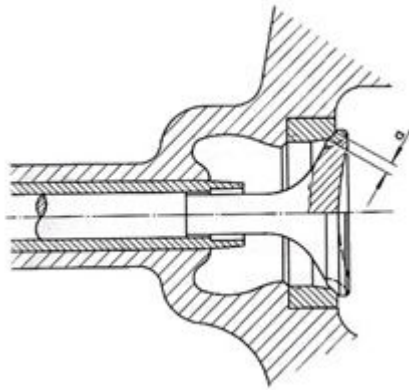
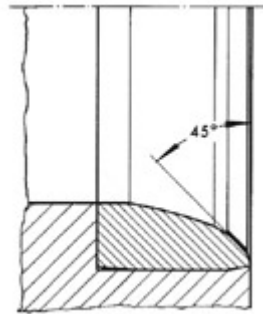
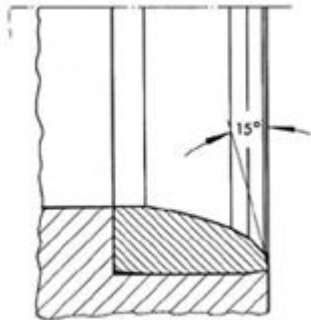
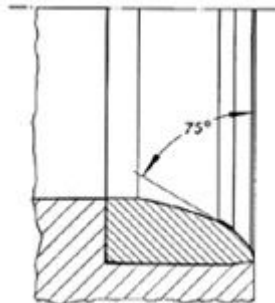

Fig 1
Fig 2
Fig 3
Fig 4
5.6.5. Valves and valve seats may not be reshaped. Valve to valve seat mating surface (figure 1) shall be cut as follows. The 45 deg valve seat width (figure 2) shall be maintained by cutting a 15 deg chamfer (figure 3) at the outside edge of the seat and a 75 deg chamfer (figure 4) at its inner edge. Seats cannot be refaced if too little material remains for a 15 deg chamfer to be cut without going beyond the boundary of the insert. If the chamfer extends to the head, the seat or the head must be replaced.
5.6.5.1. Valve specifications (figures 1 & 5):